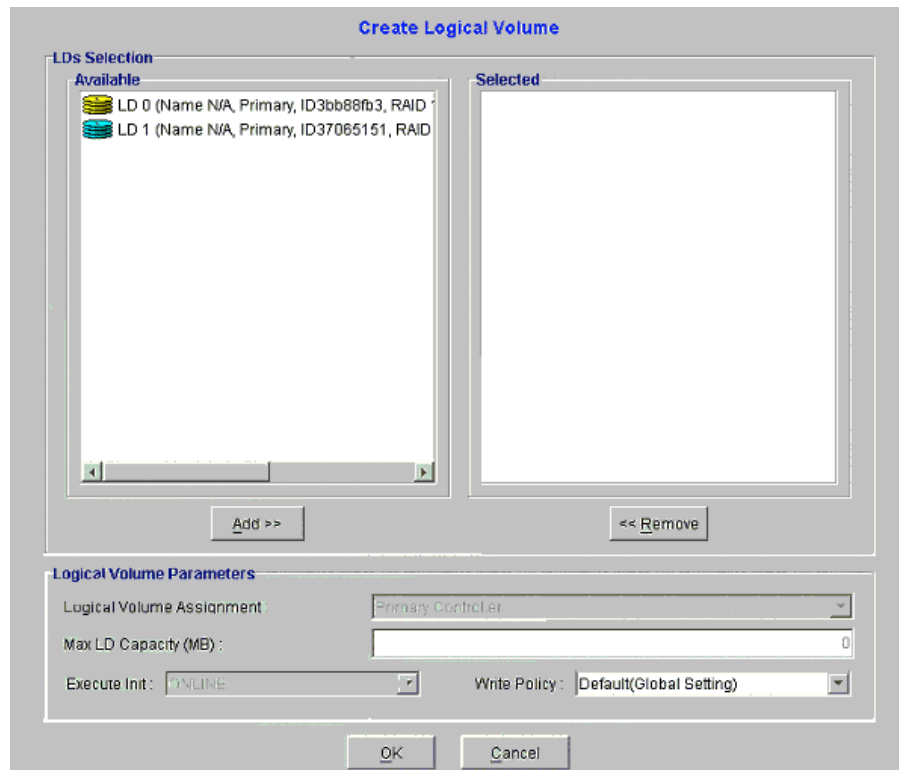
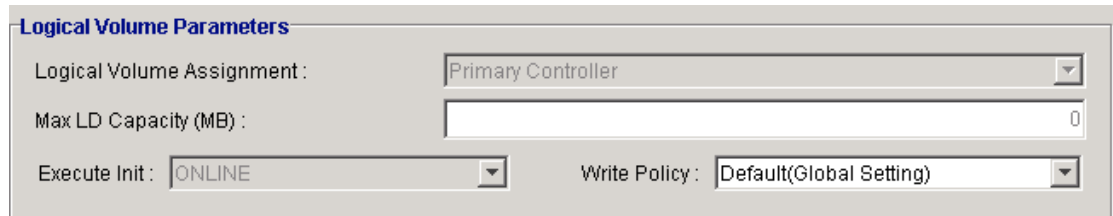

Figure 8-38: Create Logical Volume Management Window
Figure 8-41: LV Parameter Options
Step 3. For LV management, select the “Logical Volume” icon shown in *Figure 8-37*. The screen shown in *Figure 8-38* should appear in the contents panel.
Step 1. The “Available” menu in *Figure 8-38* shows the LDs that can be used to create LVs.
After the LDs that will be used in the LV have been selected, the LV parameters for the LV must be selected. LV parameter options that are available are shown in *Figure 8-41* and can be accessed at the bottom of the LV Management Window shown in *Figure 8-38*.
Using the “Execute Init” pull down menu shown in **Figure 8-41** the user can select whether the LV is initialized online or offline.
Step 1. Click the “OK” button at the bottom of the LV management window shown in **Figure 8-38**.